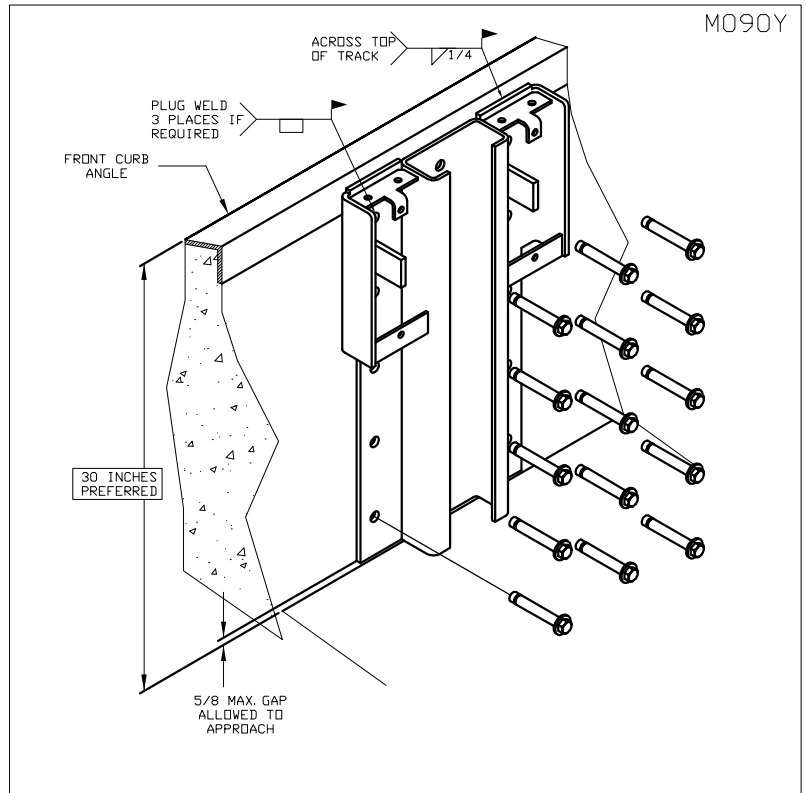

Figure 4: Anchoring Roller Track Weldment
4. ☐ Install all anchors and torque to 100 ft-lbs (See "Figure 4: Anchoring Roller Track Weldment" on page 6).